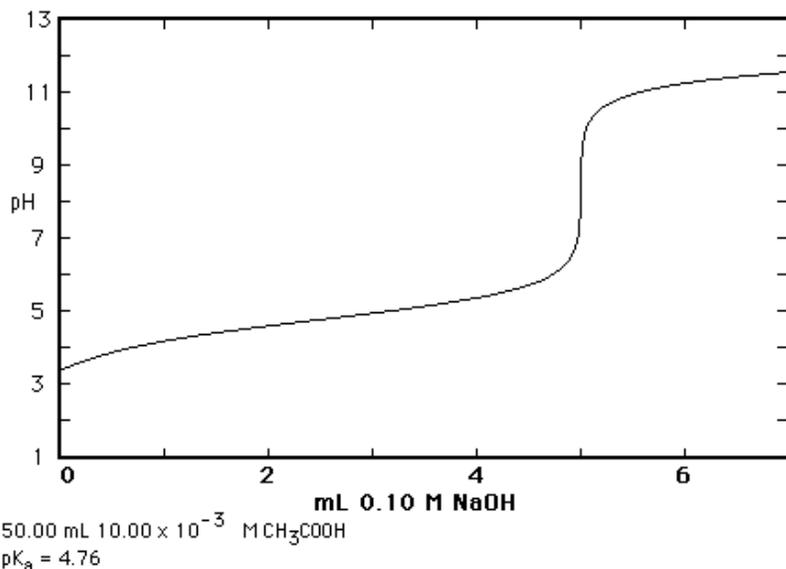
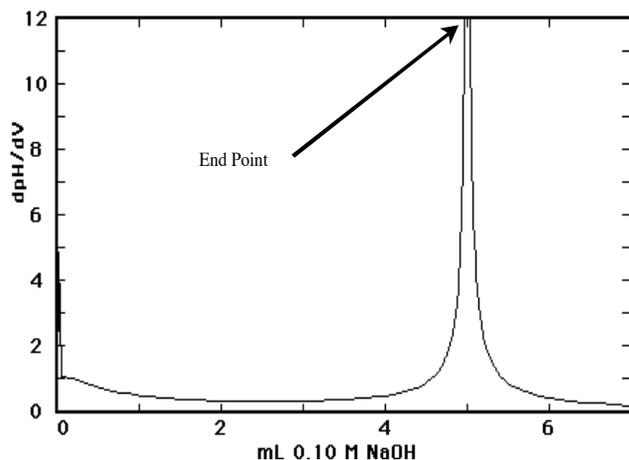

Figure 1. Titration of a weak acid with strong base, NaOH.
Figure 2. Derivative plot of the acetic acid titration shown in Figure 1.
An acid-base titration can be monitored either through the use of an acid-base indicator or through the use of a pH meter. Monitoring the pH during titration of a weak acid with a strong base leads to a titration curve, Figure 1. The equivalence point occurs when enough base has been added to react completely with all of the weak acid originally in solution. As can be seen in equation (1), the predominant species in solution at the equivalence point is the conjugate base A^- . This conjugate base reacts with water to give a basic solution at the equivalence point:
For a weak acid, the pH is not neutral at the equivalence point but is greater than 7.0. The equivalence point can be found as the steepest portion of the titration curve as seen in Figure 1. At the equivalence point, the moles of strong base added is equal to the moles of weak acid being titrated:
The equivalence point (or the end point) of the titration can be estimated visually, as in Figure 1. A more accurate approach is to calculate the derivative ($d\text{pH}/dV$) of the titration curve and plot this function versus volume of added base. As shown in Figure 2, the derivative plot exhibits a clear maximum at the equivalence point.